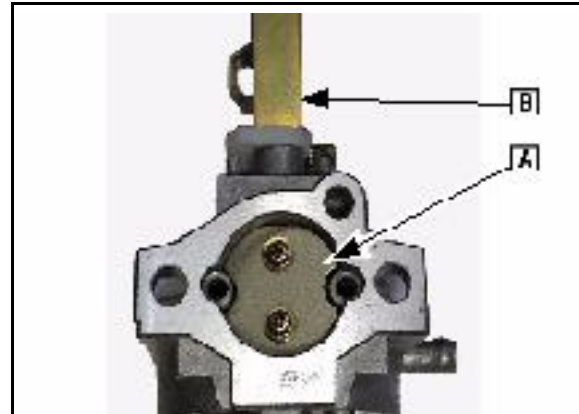

Fig. 40
8. Place choke plate ([A] Fig. 40) on choke shaft ([B] Fig. 40) and secure with two screws.